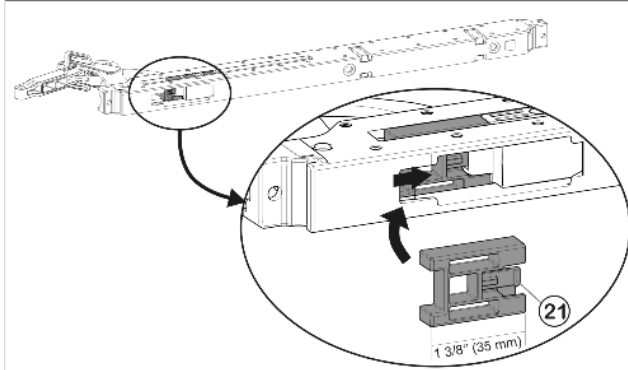

Fig. 30
- ▶ Fit opening limiter (90°) *Fig. 30 (21)* supplied: insert it into the soft stop mechanism from the side and push in until it audibly snaps into place.